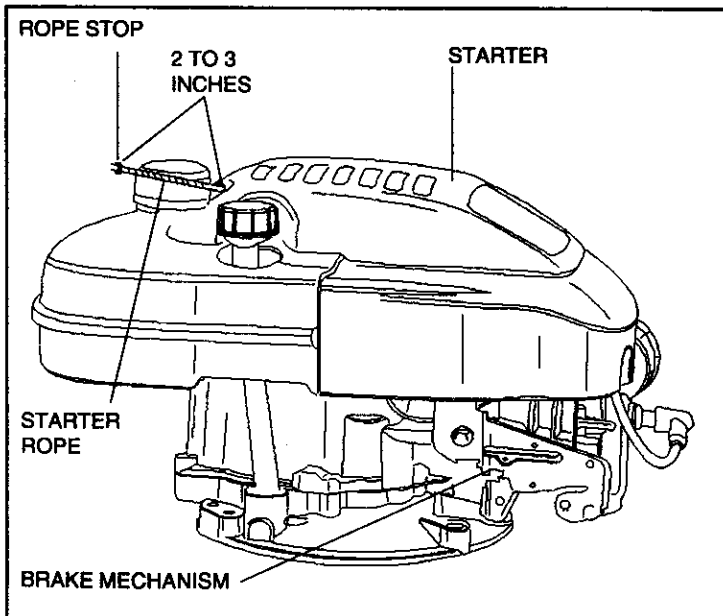
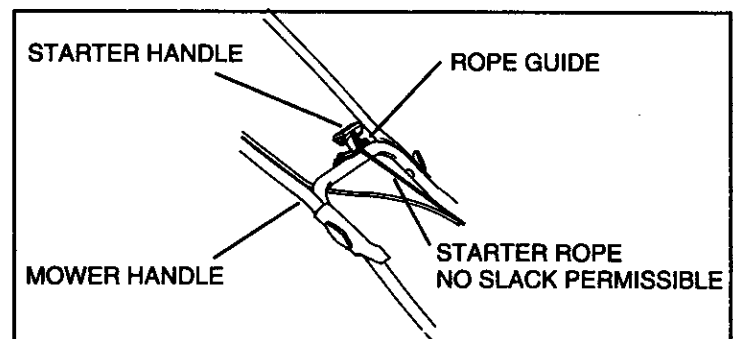

Figure 2
Figure 4
② INSTALL ENGINE BRAKE CABLE AND STARTER ROPE: BRAKE CABLE (see Figure 2): Attach engine brake cable to brake mechanism as shown.
- C. Slide rope stop (see Figure 2) onto starter rope and feed starter rope through rope guide on mower handle (see Figure 4).
- E. With starter handle resting on rope guide (see Figure 4), check starter rope for slack. If there is any slack, pull more starter rope through starter handle and relocate left hand knot to eliminate slack.
- H. Position rope stop 2 to 3 inches from starter (see Figure 2) and fasten it to starter rope by gripping it with pliers and forcing staple through starter rope until staple is even with outside of rope stop.
③ CHECK OIL LEVEL:
C. Grasp starter handle (see Figure 4) and pull rope out, slowly, until it pulls slightly harder. Let rope rewind slowly. Then pull rope with a rapid full arm stroke. Let rope rewind **SLOWLY**. Do not let starter handle snap back against rope guide (see Figure 4).